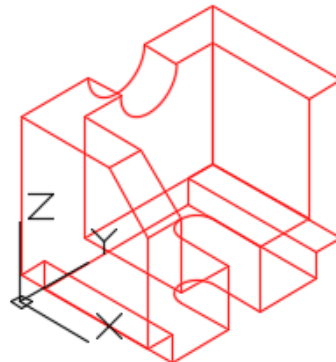

Figure Step 9
Step 9 Rotate the model 90 degrees around the Z axis. (Figure Step 9)